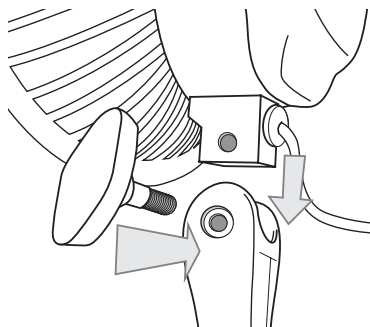

Figure 2
- 2. Place the fan housing (2) with the motor housing (3) on the stand (5). Fix it in place with the appropriate screw (see figure 2).